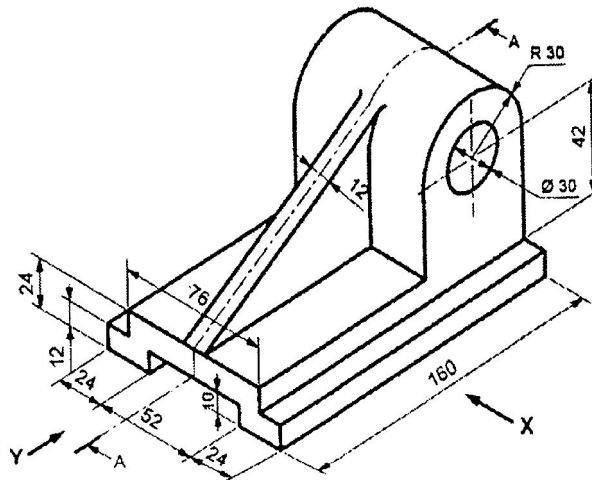

Fig 4.2
- (b) Fig. 4.2 shows isometric view of a machine component. Draw :